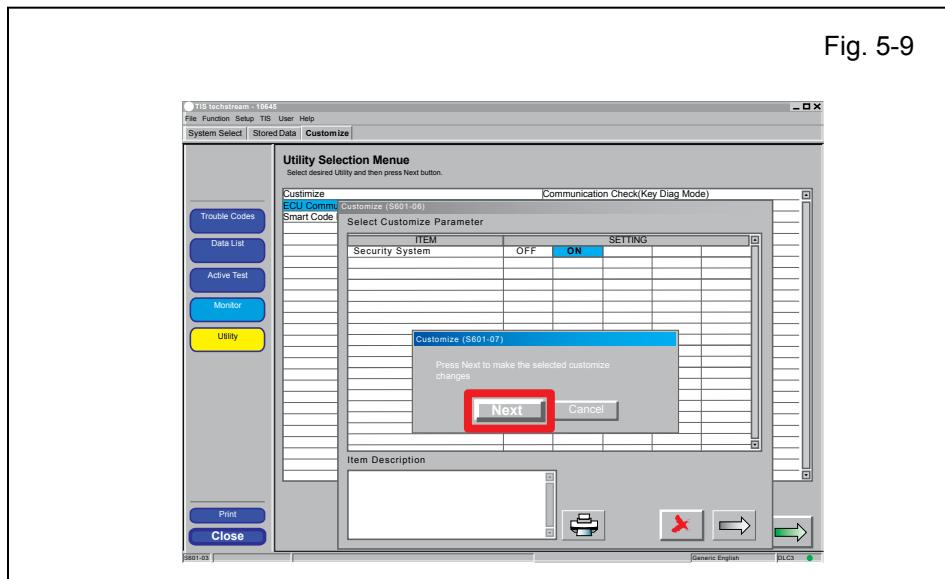

Fig. 5-9
- o. Click "Next" to accept the changes to the Vehicle. (Fig. 5-9)